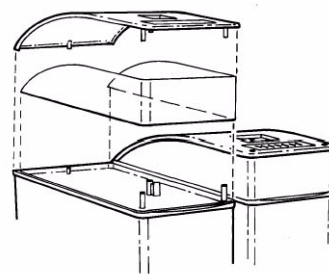

FIGURE 5
- C. Slide the merchandiser header around the outside edge of the lid's clear plastic base. Position bottom edge of header in grooved area (see Figure 5).
- D. Reassemble the black top cover onto the clear plastic base. The top edge of header should slide into black top cover grooved area (see Figure 5). Replace the screws. Replace the hole plugs (the angled plug goes in the rear hole, and the two large plugs go in the two front holes and the small plug goes in the center hole by the rocker switches).